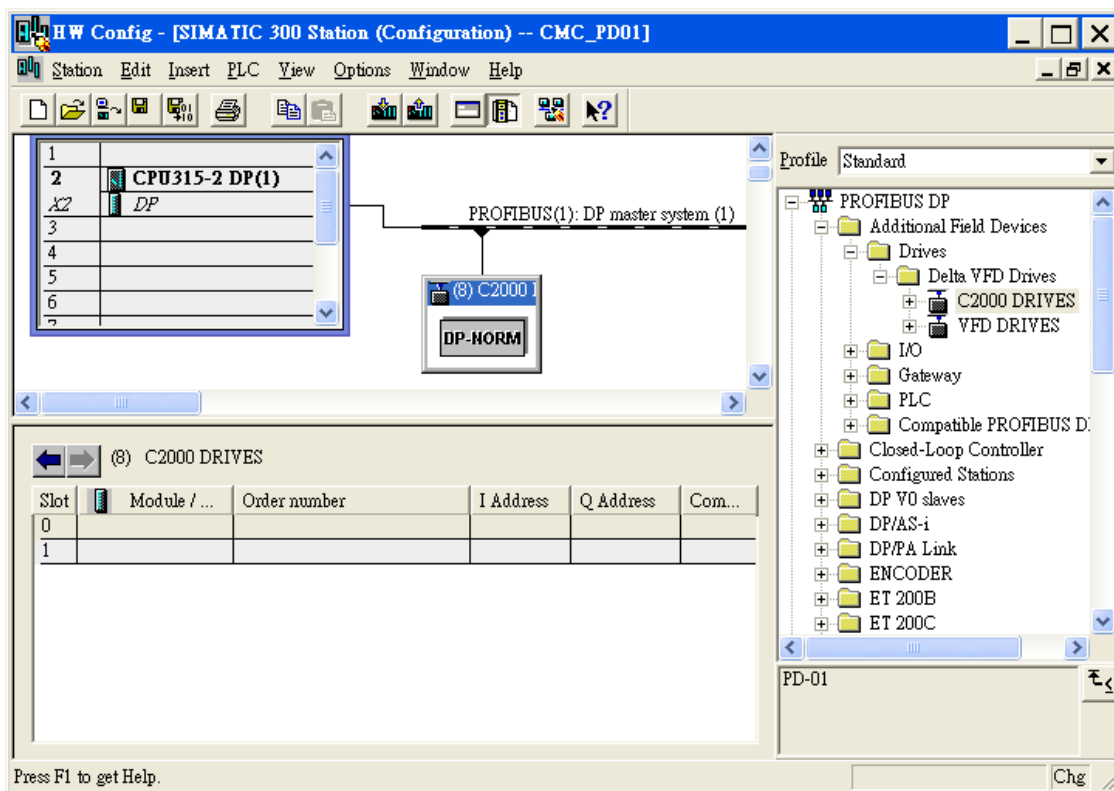

Figure 7-22
3. Add PROFIBUS DP bus to VFD-C2000. See Figure 7-22.